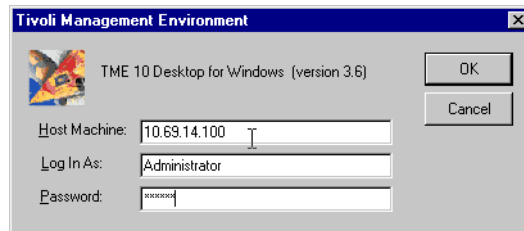

Figure 28. Tivoli Desktop login
22. Log in to the local machine. Use your Windows IP address or host name as shown in Figure 28.